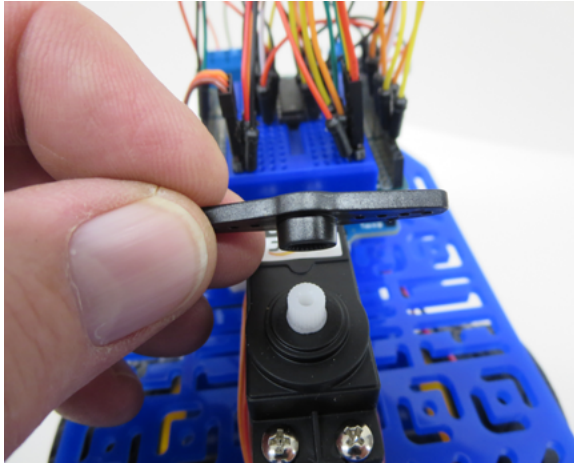

Fig.23
2. Select the two arm servo coupler from the servo motor attachments and push it onto the servo shaft as shown in Fig 23.